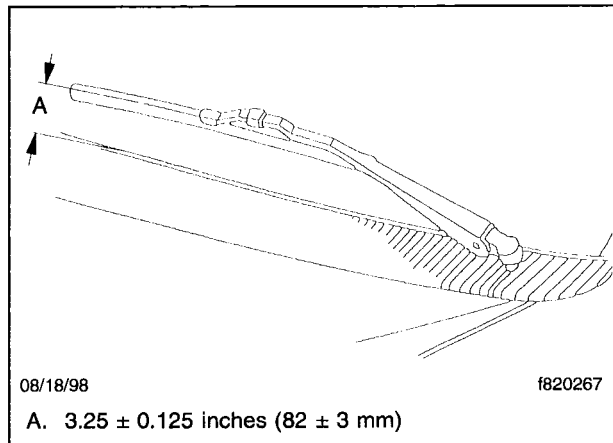

Fig. 9, Driver-Side Windshield Blade Park Dimension
- 15.3 Verify that the distance between the center of the driver-side windshield wiper blade and the cowl top vent panel is within 3.25 ± 0.125 inches (82 \pm 3 mm). See **Fig. 9**.